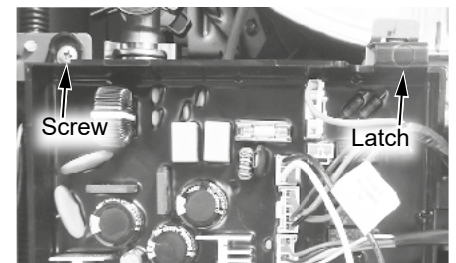

Figure 3 - Control Board screw location
- 13** Locate the two (2) screws at the bottom of the cabinet cover. Use a Phillips screwdriver to remove the screws. Place screws aside in a safe place for reinstallation.
- 15** Locate the screw securing the control board panel. Use a Phillips screwdriver to remove the screw and place it aside in a safe place for reinstallation. See Figure 3.